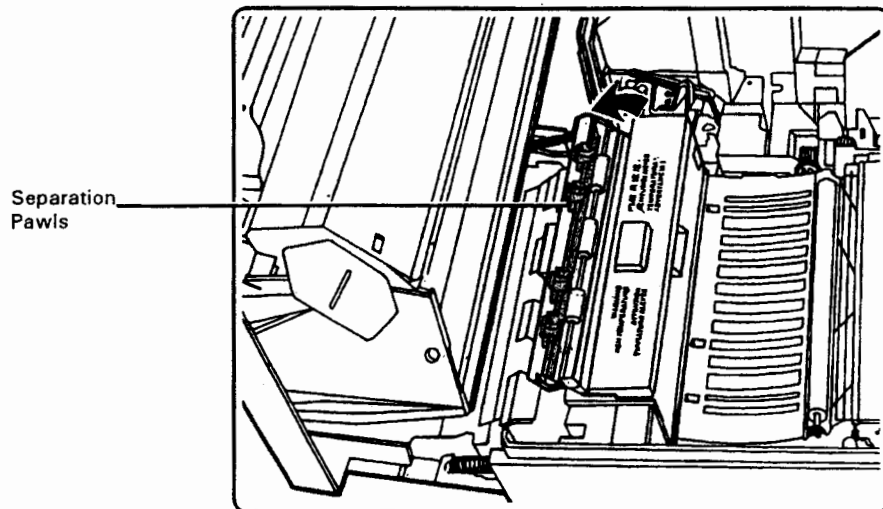

Figure 4-6. Cleaning the Fusing Assembly
Periodically cleaning the Fuser Separation Pawls (claws) (see Figure 4-6) will help prolong the life of the printer's Fusing Assembly.
3. Push the rear section of the Fusing Assembly (the section toward the rear of the printer) fully open. You will be able to see the four black plastic Fuser Separation Pawls (claws) along the lower edge of the section just pushed back (see Figure 4-6).